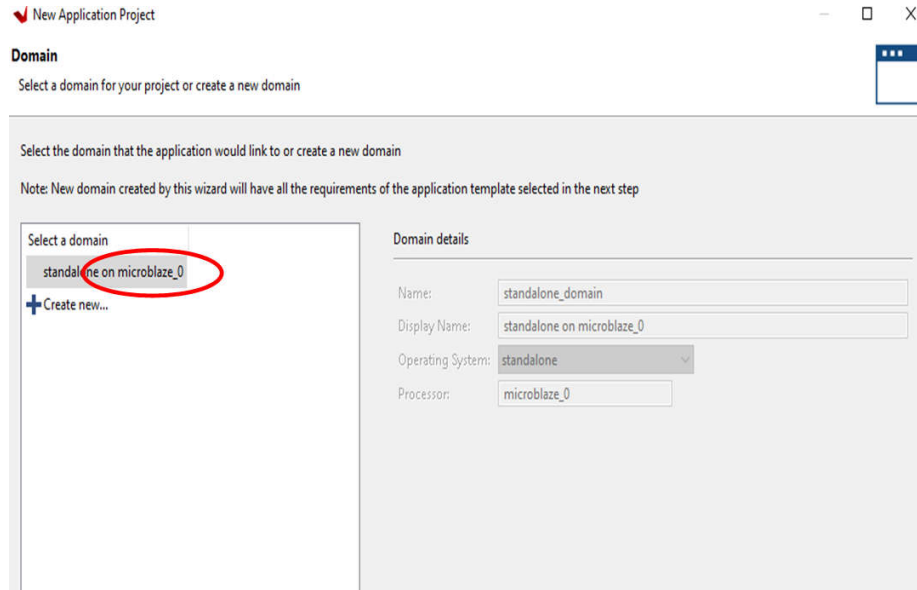

Figure 7-5. Application Project Name
5. Select *standalone on microblaze_0* and click *Next* (see Figure 7-5).